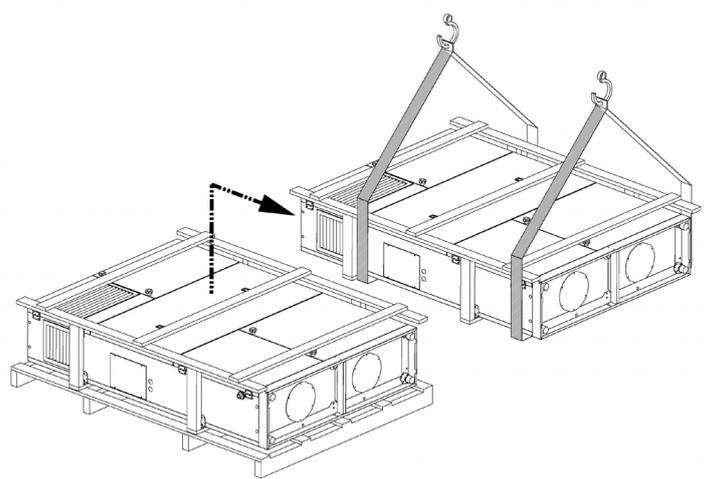

Fig.16
- In the case of multiple packaging, proceed to unload the individual units using a forklift or suitable straps and lifting equipment as shown in Figure 16.